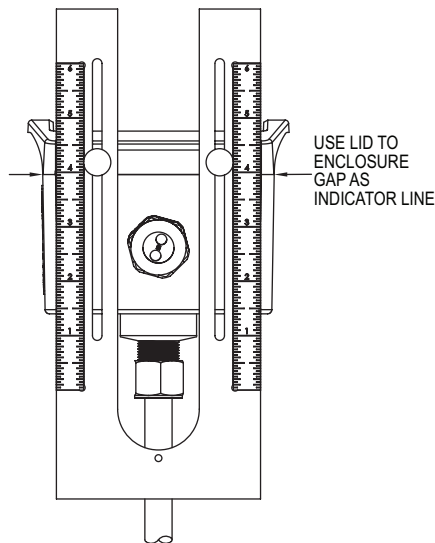

Figure 4
Step 1: To prepare the meter for installation, mount the provided alignment scale to the side of the meter with the two provided thumbscrews. The thumbscrews are to be inserted through the alignment scale slots and into the holes in the side of the lid as shown in Figure 4, finger tighten only. Be sure to orient the alignment scale as shown in figure below. Actual scale setting determined in next step.
Step 2: Locate the configuration tag attached to the Series IEF to identify the value of the alignment scale setting. Position the alignment scale such that the scale setting is lined-up with the seam of the enclosure as shown in Figure 4. Minor scale marks are in 1/20ths. Securely tighten the thumbscrews.